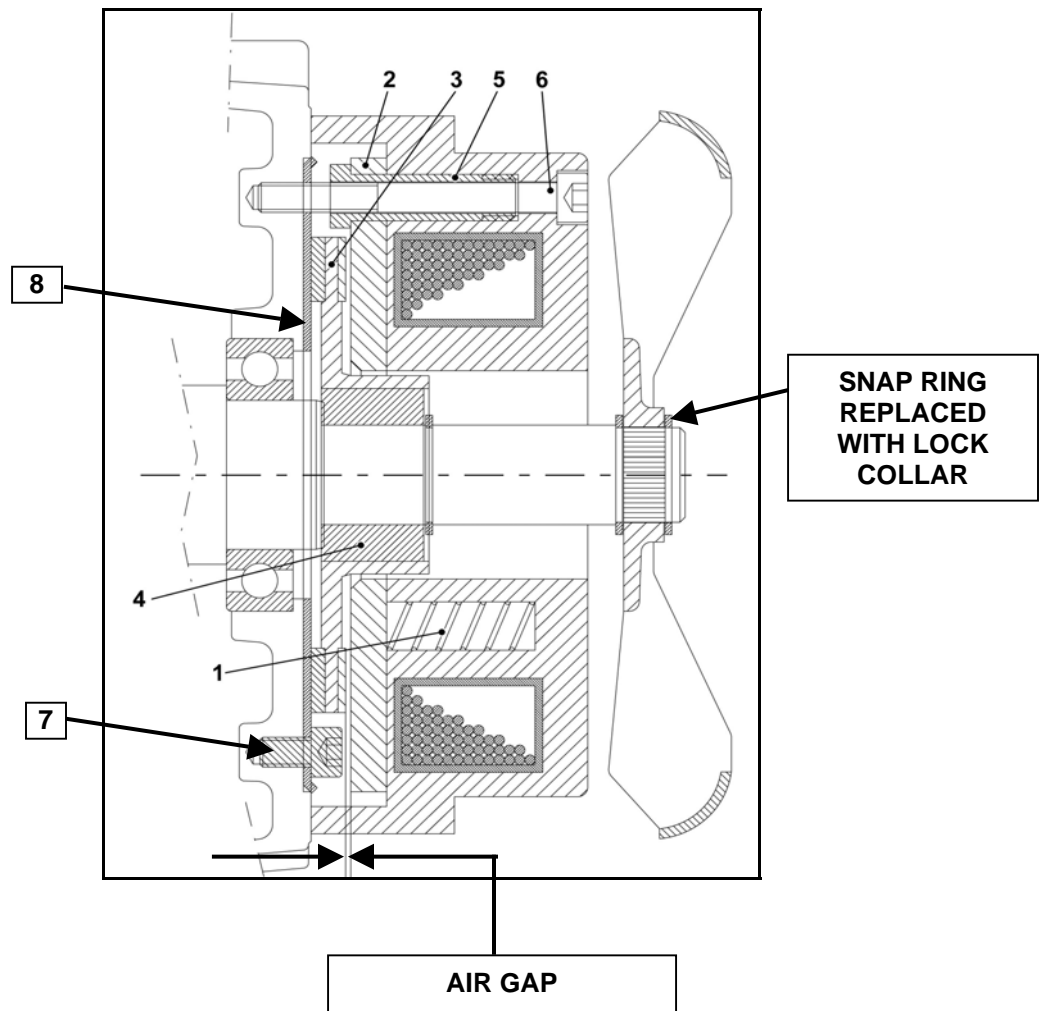

FIGURE 5.3
6. Remove lock collar (see Figure 5.3) and remove fan. If needed, use two screwdrivers under hub to pry fan loose.
10. Remove three (3) screws – Figure 5.3 - from brake magnetic assembly. Remove brake magnetic assembly.
11. Remove motor brake friction rotor – item 3 – Figure 5.3.
12. Remove three (3) screws – item 7 – Figure 5.3 and remove wear plate item 8 – Figure 5.3.
2. Attach wear plate – item 8 – Figure 5.3 to hoist motor end flange and tighten three (3) screws item 7 – Figure 5.3 to recommended tightening torque – 6.6 lb-ft [9Nm].
3. Slide friction rotor (item 3 – Figure 5.3) onto brake hub (item 4 – Figure 5.3).
4. Mount magnetic brake assembly (item 1 – Figure 5.3) and tighten three (3) screws (item 6 – Figure 5.3) to recommended tightening torque – 6.6 lb-ft [9 Nm].